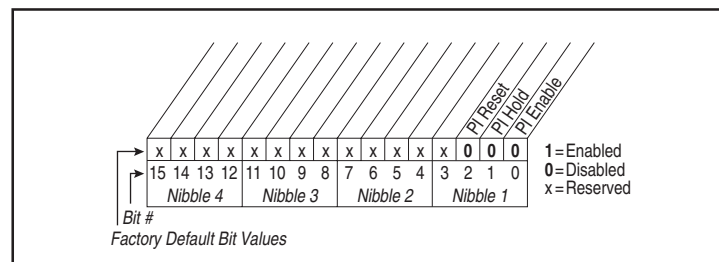

Figure 11.11 – PI Control (125)
**Range:** See figure 11.11
**Default:** See figure 11.11